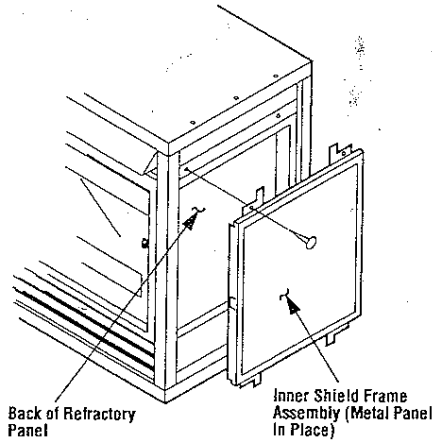

Figure 3
**Step 3.** Close up the end of the appliance with the inner shield frame assembly (Figure 3). Secure the inner shield frame assembly with the four (4) screws from the kit.